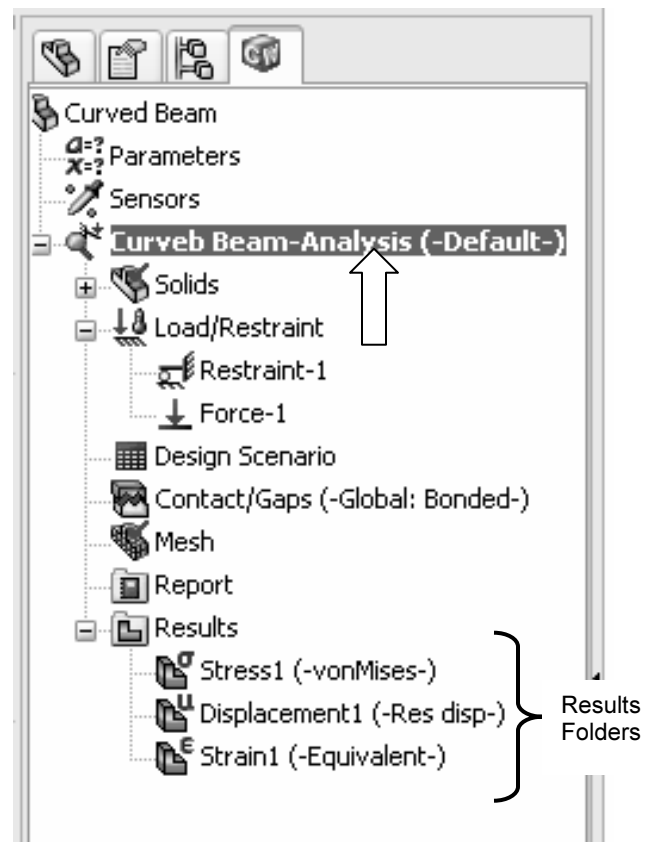

Figure 15 – **Results** folders created during the Solution process.
1. To run the analysis, right-click the **Curved Beam Analysis (-Default-)** folder highlighted in Fig. 15. From the pull-down menu, select **Run**. This action initiates the solution process.
After a successful solution, a **Results** folder appears at the bottom of the COSMOSWorks Manager. Within the **Results** folder are three sub-folders that contain results saved at the conclusion of each Study. These folders are named: **Stress1**, **Displacement1**, and **Strain1** as illustrated in Fig. 15. These folders contain default plots created as a result of the static analysis.